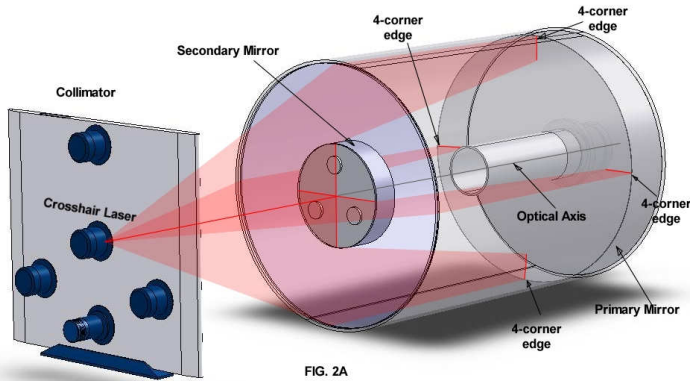
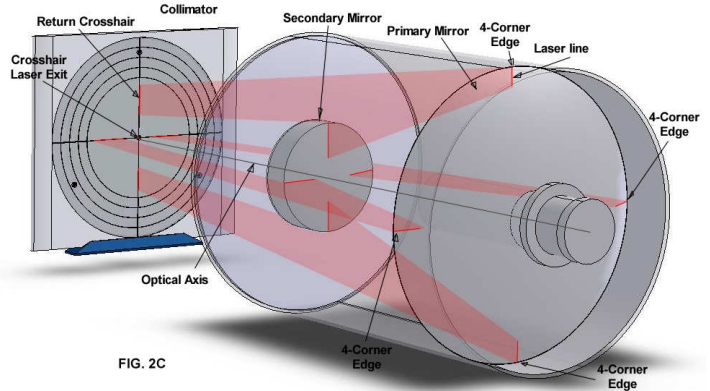

FIG. 2A
FIG. 2C
To ensure accurate aiming, you must use the crosshair laser emitting from the center of the collimator as a guide to the center point on your primary mirror (FIG. 2A), and the reflected crosshair from the telescopes primary mirror to the center point of the target (FIG. 2C). Please expect to spend most of the time on iterating the aiming adjustment. Be patient and consistent, the reward is beyond your imagination.
3. Aim collimator at telescope (FIG. 2A)
4. Aim telescope at collimator (FIG. 2C)